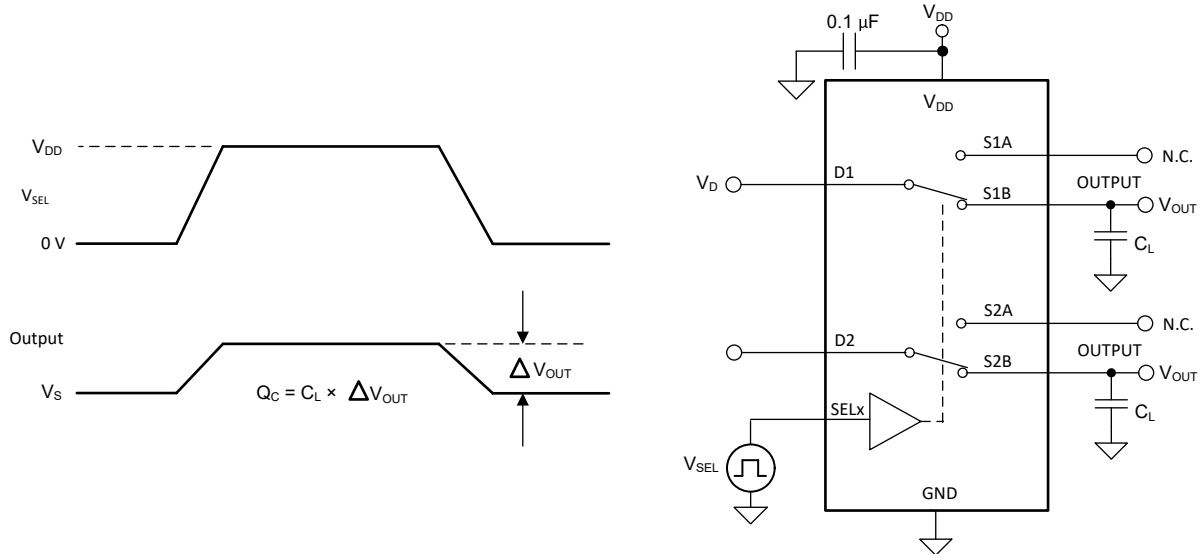

Figure 7-11. Charge-Injection Measurement Setup
Any mismatch in capacitance results in a charge injected into the drain or source during the falling or rising edge of the gate signal. The amount of charge injected into the source or drain of the device is known as charge injection, and is denoted by the symbol  $Q_C$ . Figure 7-11 shows the setup used to measure charge injection from Drain (D) to Source (Sx).